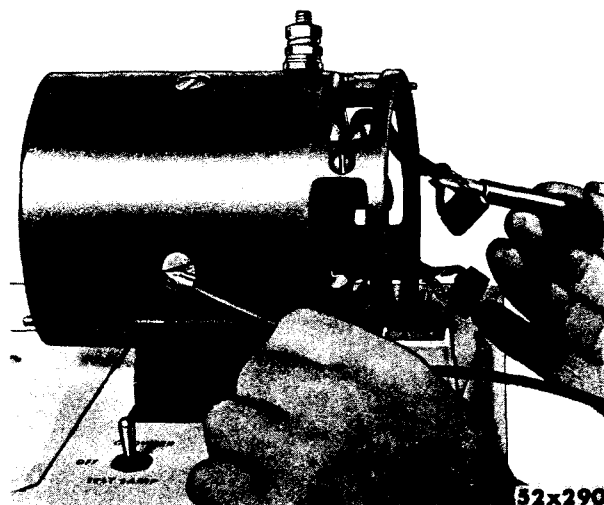

Fig. 6 — Testing Field for Ground
a. Testing for Grounded Field (Fig. 6)